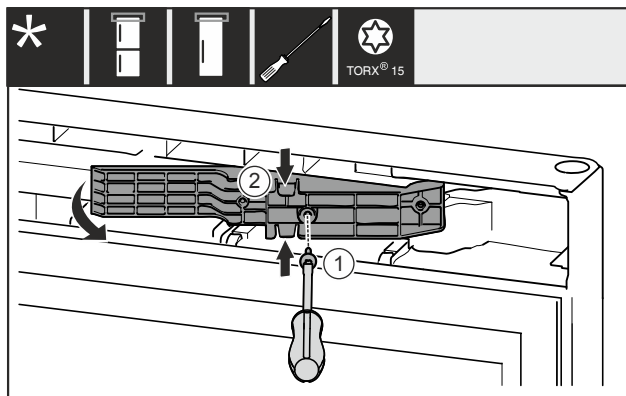

Fig. 11 *
- ▶ Remove the screw Fig. 11 (1).*
- ▶ Gently press the top and bottom of the adapter piece Fig. 11 (2) together and pull it out.*